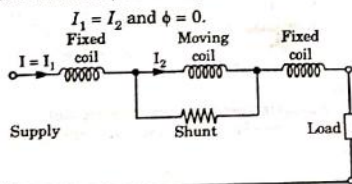

Fig. 1.15.2. Electrodynamicometer ammeter.
1. In this the fixed coils and moving coils are connected in series as shown in Fig. 1.15.2. Therefore, coils carry the same current i.e.,